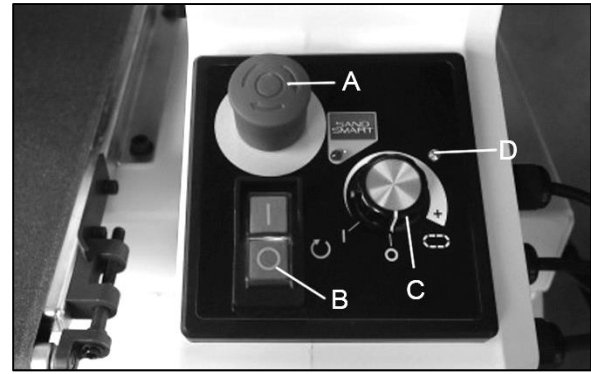

Figure 9-1: control panel
2. Disengage emergency stop by clockwise turning the red button or pulling it up (A, Figure 9-1).
**Note: Error Indicator (D) may flash continuously to remind that the conveyor speed dial is NOT set at OFF position before starting the operation.** The control system is designed to prevent the conveyor belt from being activating accidentally. If conveyor belt motor doesn't work, turn the dial (C) to OFF and re-dial.
3. Turn on the On/Off switch (B) to start drum motor.
4. Rotate conveyor speed dial (C) clockwise to start and increase speed of conveyor.